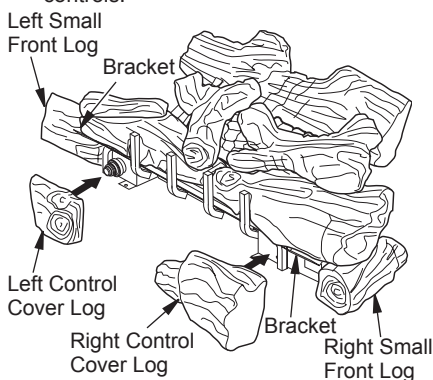

Figure 28 - Installing VUL36 Model Control Cover Logs
7. For VUL36 models, the front right and left logs are longer and are supported with brackets on each end (see Figure 28). Place the left and right small front logs under the left bracket and beside the right bracket.
8. For VUL36 models, position left and right control cover logs as shown in Figure 28. These may be placed as desired to hide controls.